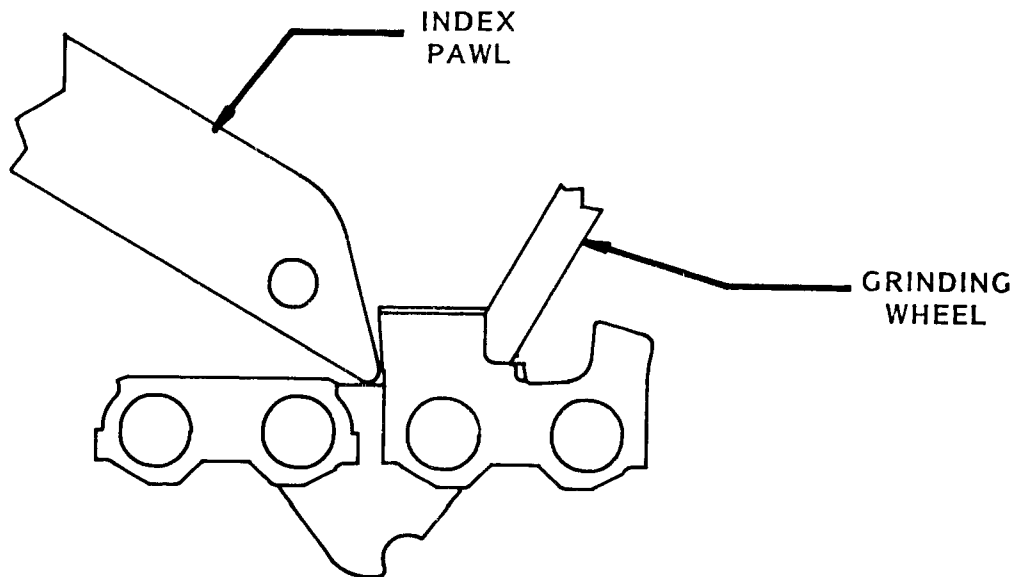

FIGURE 26
15. SET THE INDEXING PAWL. Using the thumb bolt adjuster (front left of the machine), set the indexing pawl to the back side of the cutter that is being sharpened (See Figure 26), to a position that will sharpen just enough cutter to regain a new, clean edge. After setting the indexing pawl, return to steps 12 and 13 and Figure 18 to make the final offset setting and also the correct depth setting to leave a clean, flat gullet.